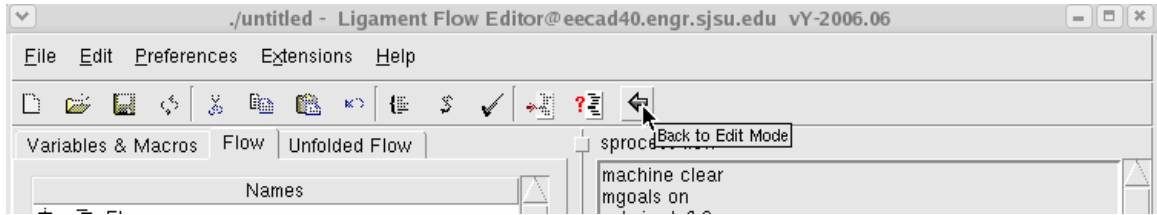

Figure 45: Going back to the GIU editor.
15. Click on the Go back to editor icon (Figure 45).